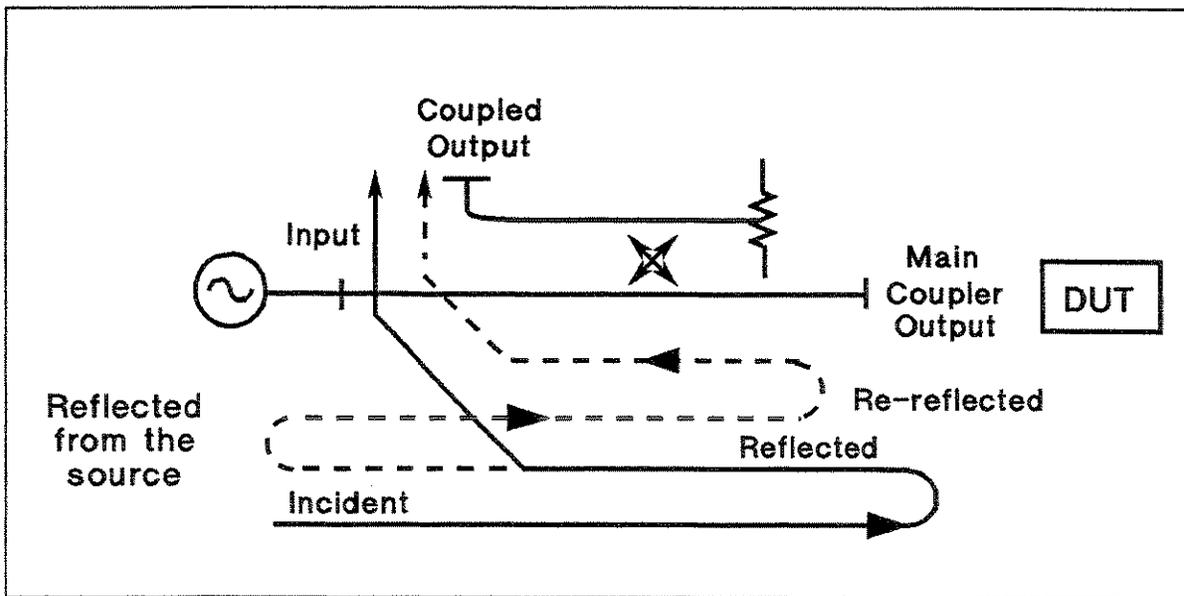

Figure 12-24. Source Match
- In a reflection measurement, the source match error signal is caused by some of the reflected signal from the DUT being reflected from the source back toward the DUT and re-reflected from the DUT (Figure 12-24).